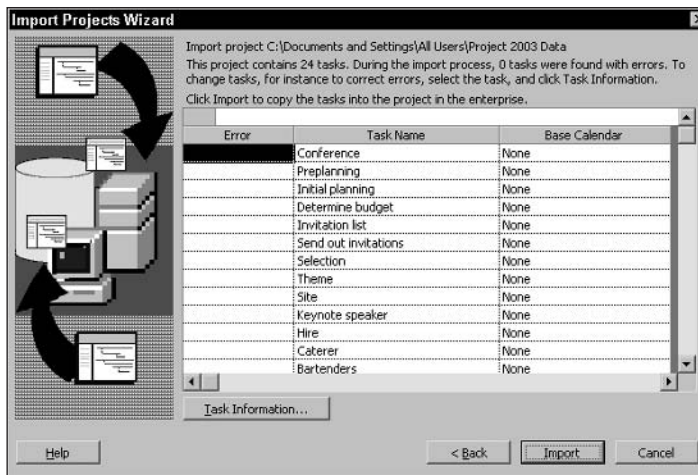

Figure 19-38: This screen summarizes the settings that you selected using the wizard.
8. On the next screen, shown in Figure 19-38, you see a summary of the settings that you've selected using the wizard. The wizard also analyzes tasks in your project for errors and reports any errors that it finds on this screen. Click the Import button, and Project imports the project to the Project Server database.